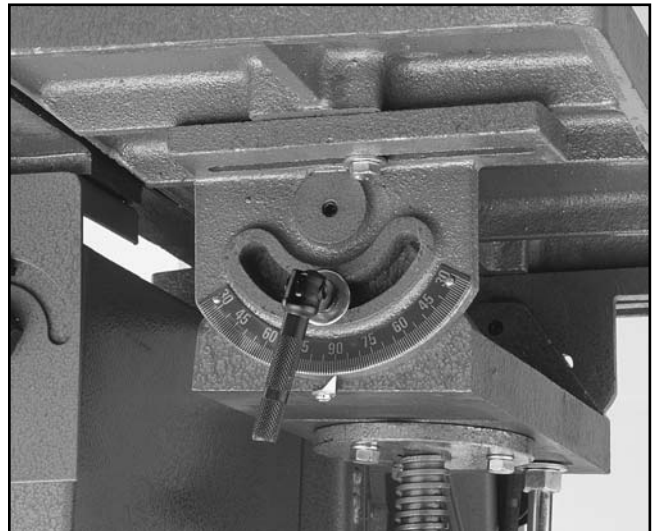

Figure 11. Setting the pointer to 90° .
10. Adjust the work table 90° to the sanding platen by checking it with a square. Adjust as necessary and tighten the table lock handles. At this time adjust the pointer to 90° . **See Figure 11.**